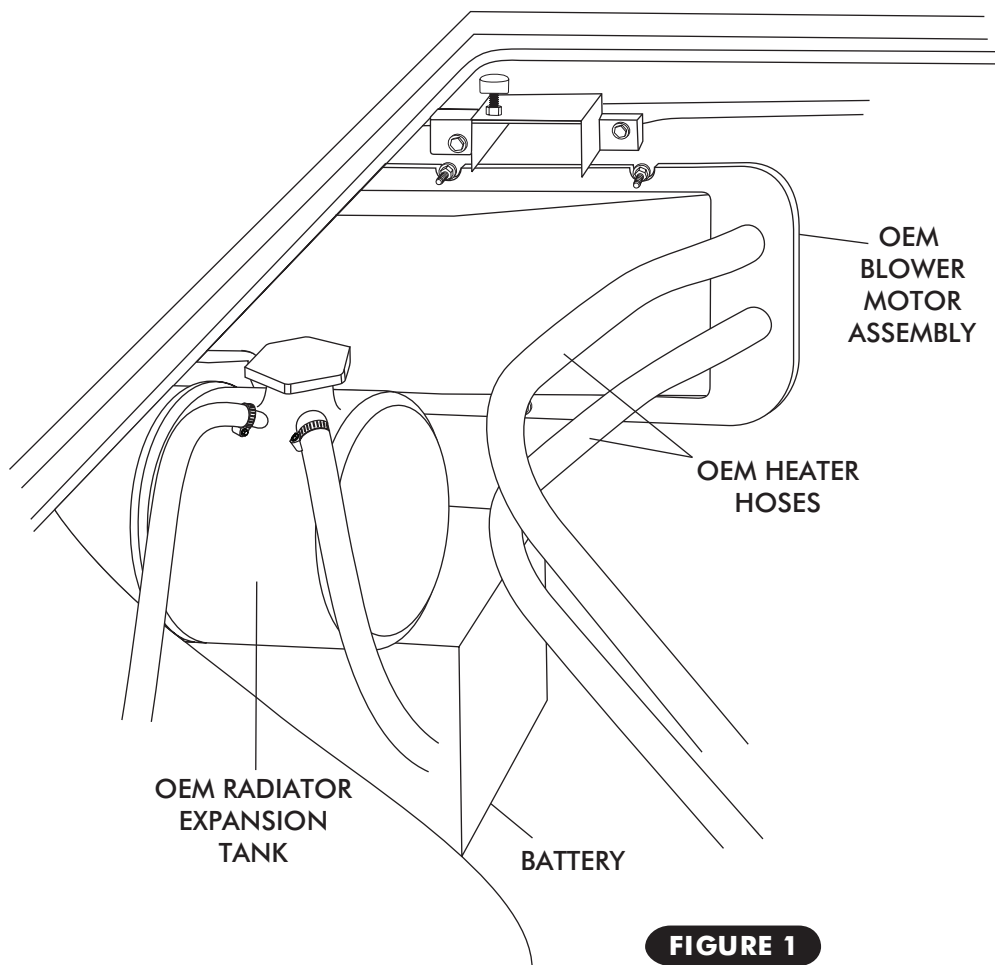

FIGURE 1
- OEM HEATER HOSES (DISCARD). SEE FIGURE 1.